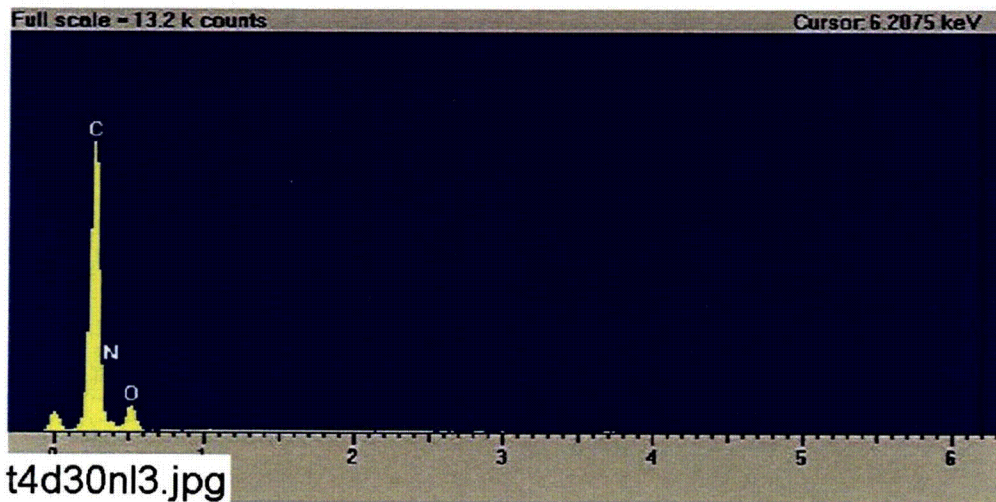

Figure C2-3. EDS counting spectrum for the spot of nylon mesh shown in Figure C2-2. (t4d30nl3.jpg)
- Figure C2-3. EDS counting spectrum for the spot of nylon mesh shown in Figure C2-2. (t4d30n13.jpg)..... C2-5